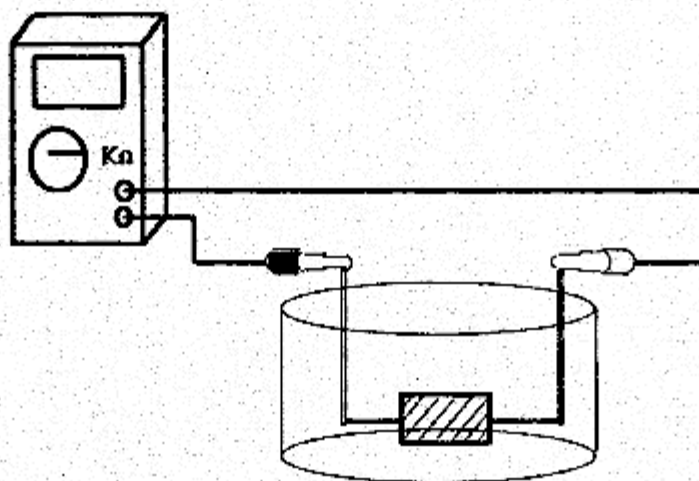

Figure 5: Equipment Arrangement
(1) Set up the meter/diode test apparatus as shown in Figure 5. A diode is an electronic device that allows current to flow in only one direction. You will use a special type of diode called a thermistor. A thermistor is a semiconductor material which has resistance proportional to $1/T$. Thus you observe increased resistance with decreased temperature.